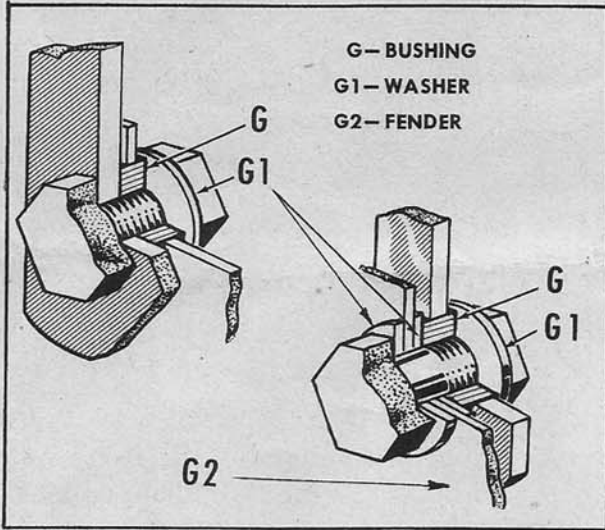

FIG. 6—FENDER ASSEMBLY
11. Attach right (11) and left (12) fender to fender toggle assembly 13. See detail, Fig. 6. Be sure to use bushings provided at G.
12. Install right fender and toggle assembly (11) at point E. Note that slotted toggle is to the rear.
13. Install left fender and toggle assembly (12) at point F.